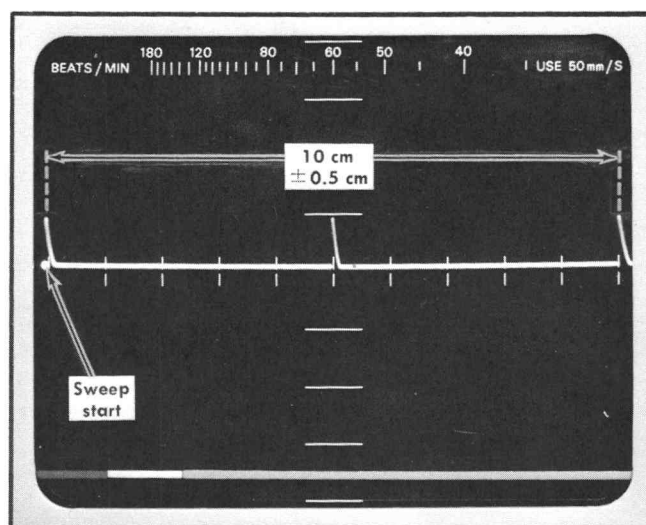

Fig. 6-23. Typical CRT display showing correct timing accuracy.
- Note the distance between the first and last time markers for each SWEEP SPEED position. Refer to Fig. 6-23.